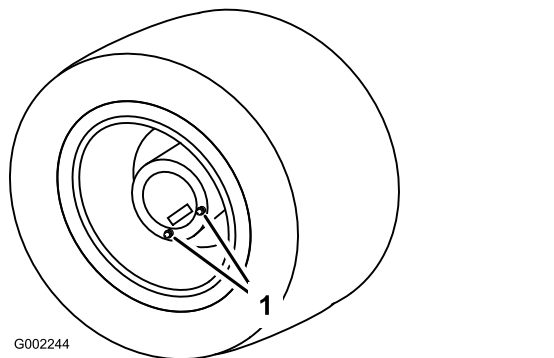

Figure 66
1. Position the sprayer on a level surface with the rear wheels positioned for draining as illustrated in Figure 66.
3. Place a pan under the drain plugs and remove them from the wheel (Figure 66).